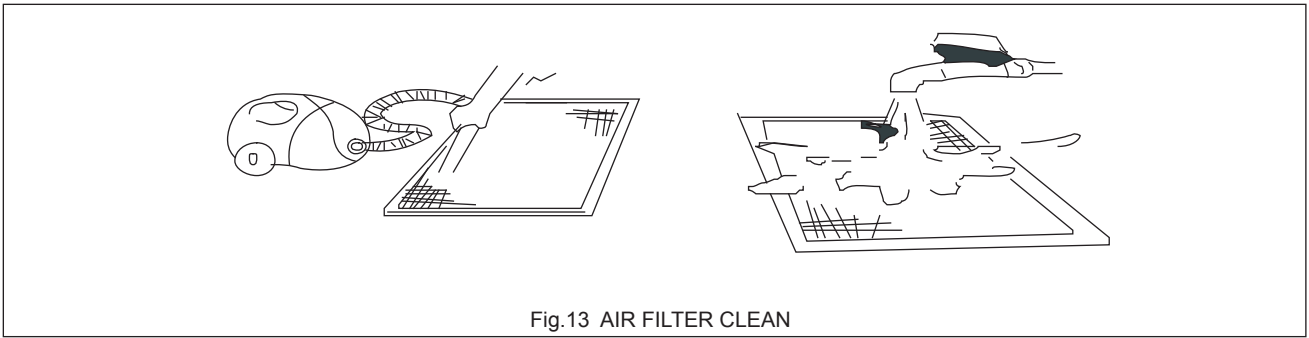

Fig.13 AIR FILTER CLEAN
3. Clean the air filter (Vacuum cleaner or pure water may be used to clean the air filter. If the dust accumulation is too heavy, use soft brush and mild detergent to clean it and dry out in cool place).See in Fig.13.